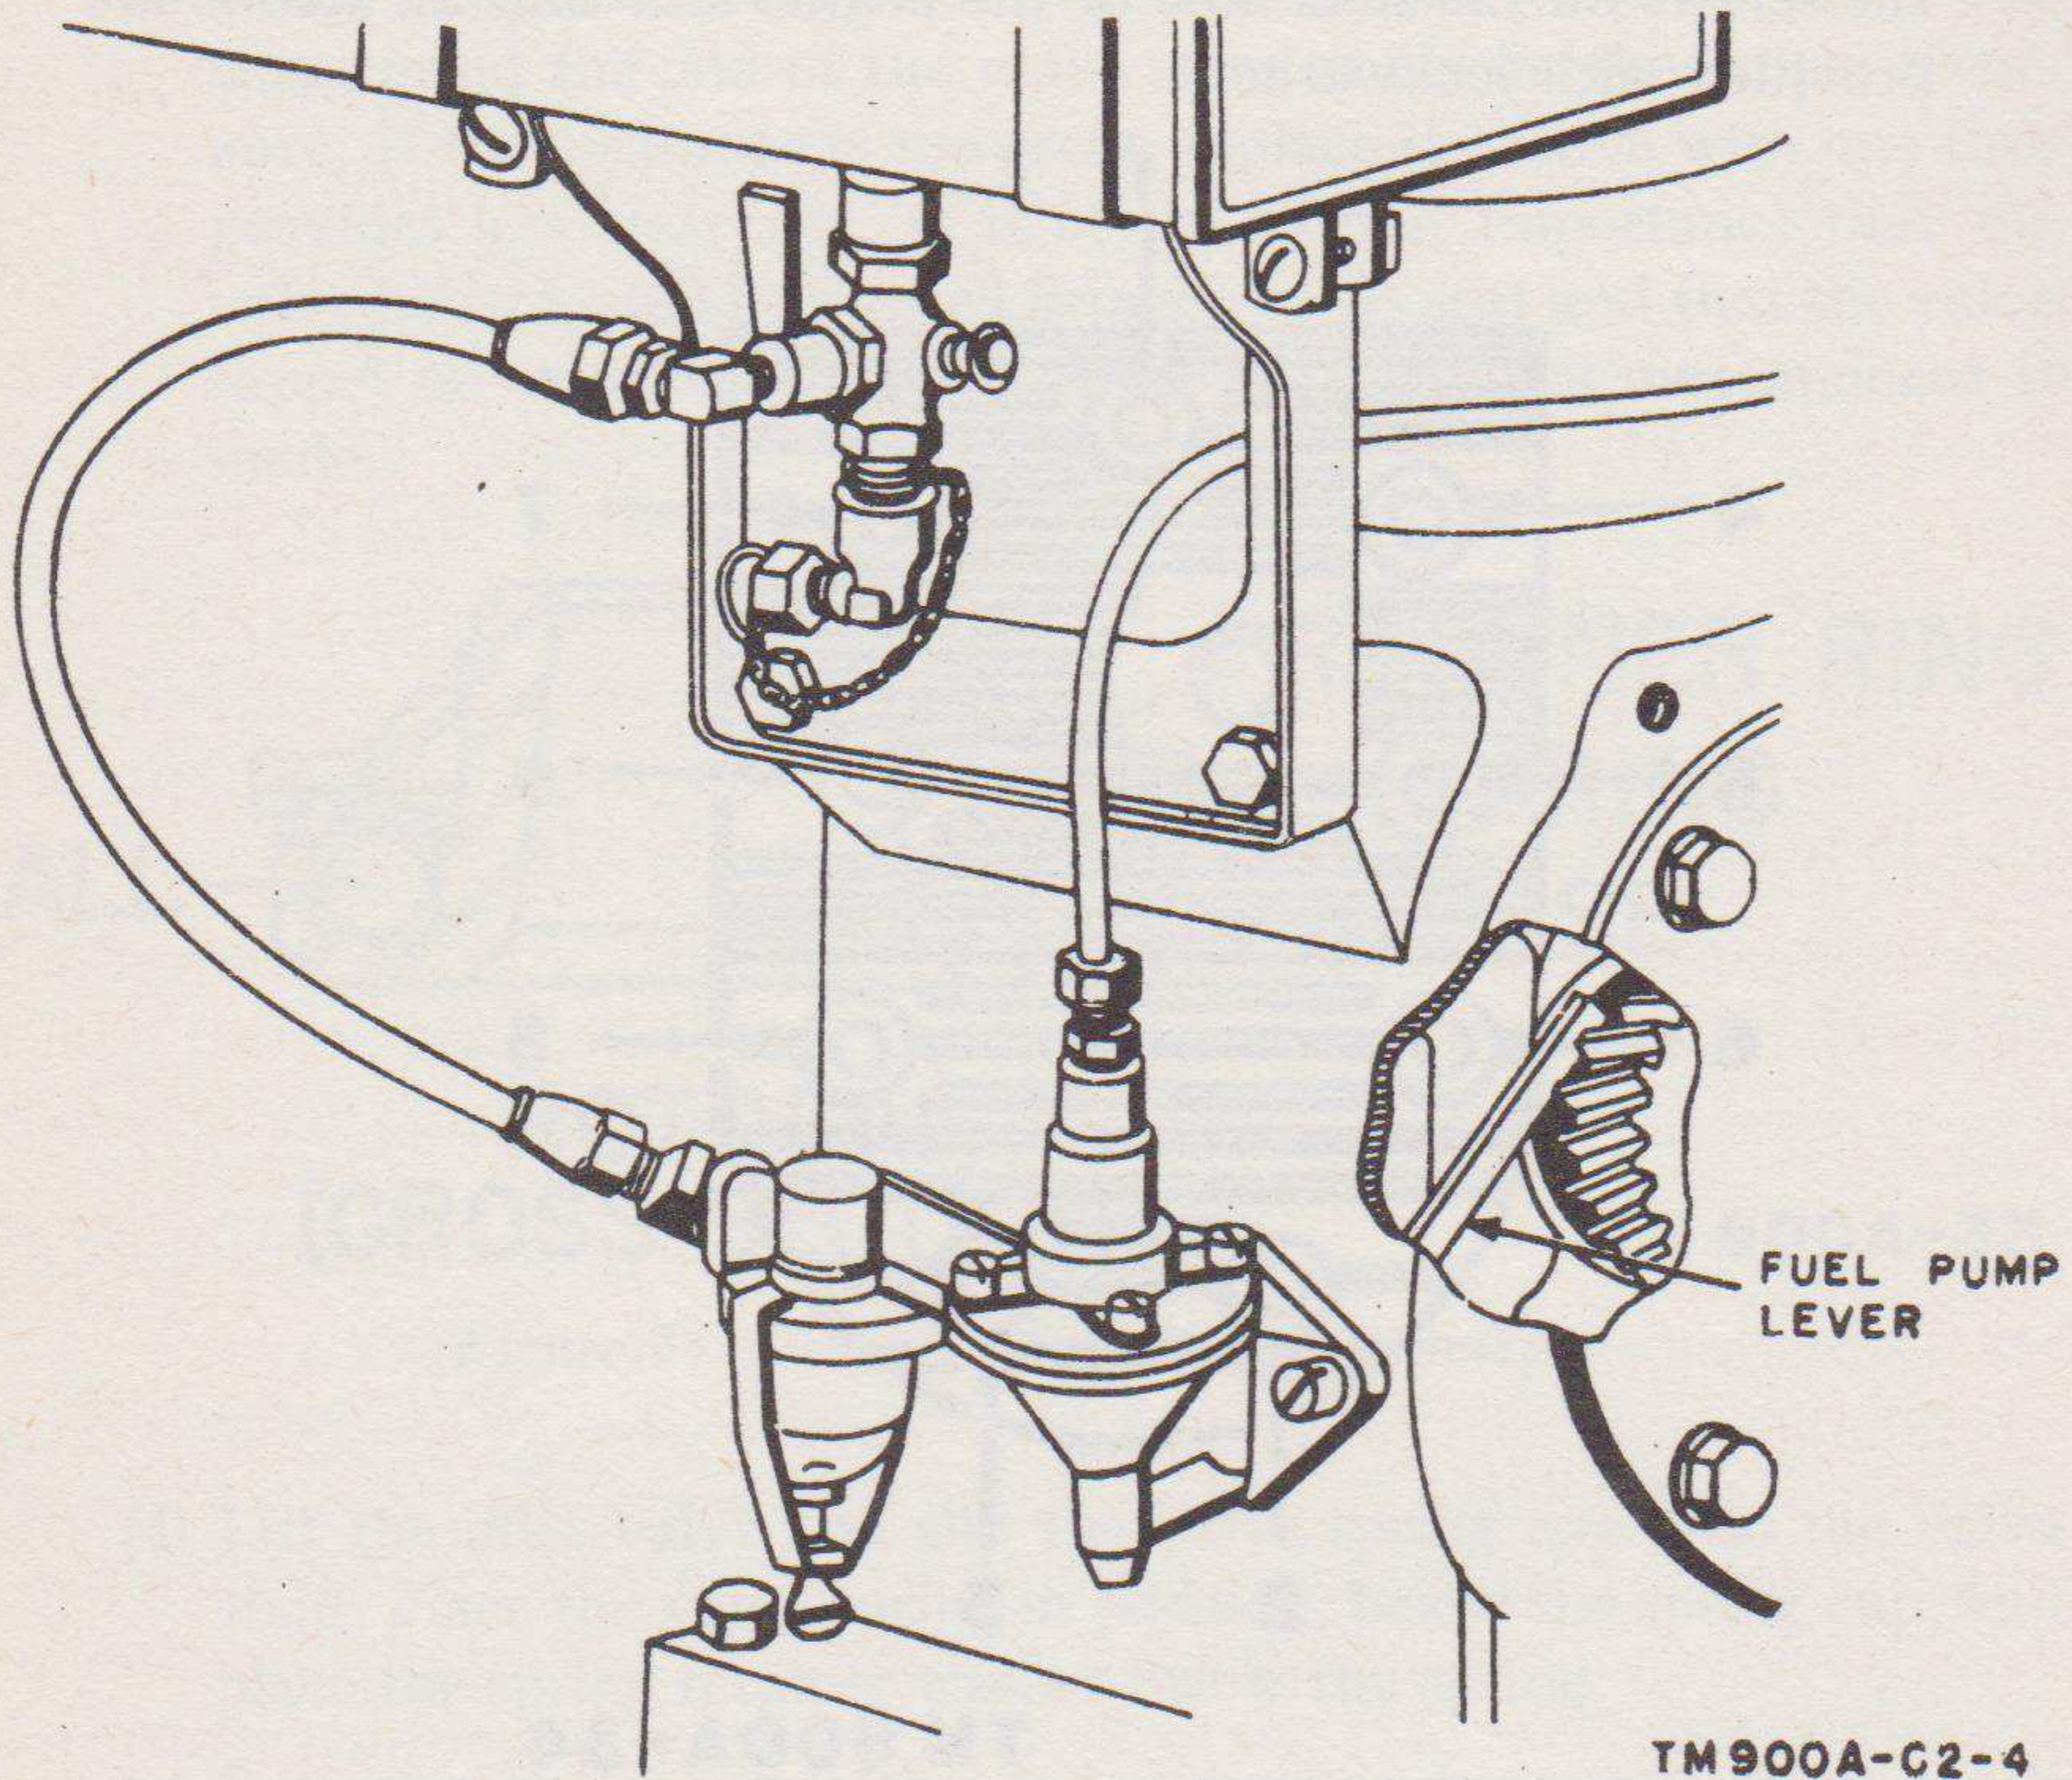

Figure 35. Position of fuel pump lever on crankshaft.
e. Install the fuel pump and filter assembly. Keep the pump mounting face parallel to the mounting face on the crankcase and see that the pump lever rides in the narrow groove that is between the cam gear and the counterweight on the crankshaft (fig. 35). See that the fuel pump mounting